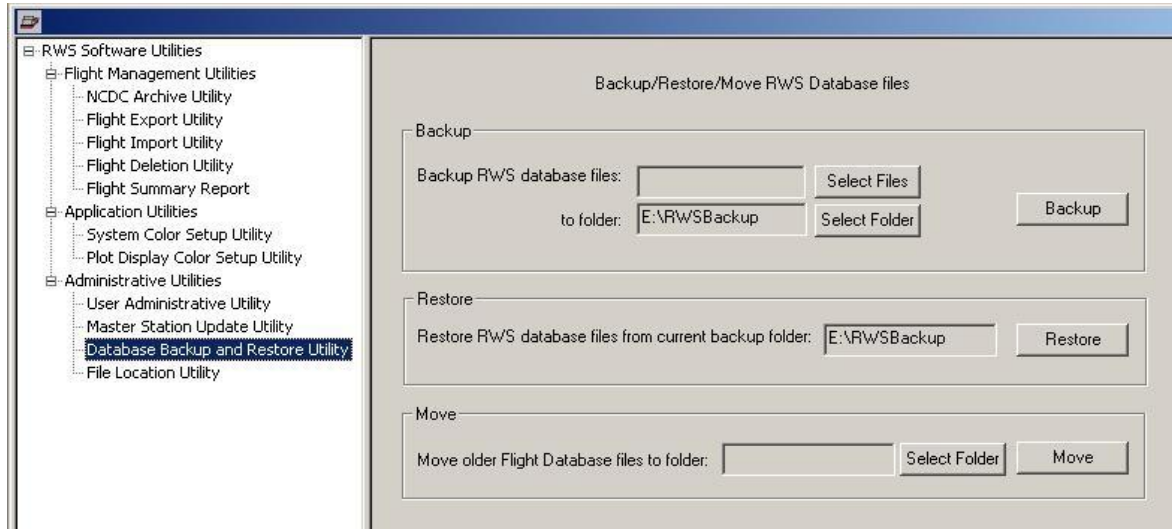

Figure B-1: RRS Backup, Build 1.2
- a. Click **Select Files** from the *RWS Build 1 Database Backup* utility screen (Figure B-1).